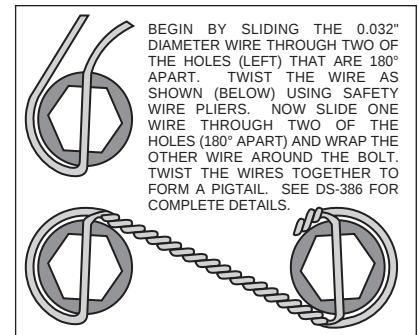

Figure 3. Safety Wire Diagram
- The rotor (3) has two sides. A flat side and an inset side. Bolt hat (2) to flat side of rotor (3) using bolts (5). Using an alternating sequence, apply red *Loctite*® 271 to the threads and torque bolts (5) to 25 ft-lb. For an added measure of security, the bolts may be safety wired using standard 0.032 inch diameter stainless steel safety wire as shown in Figure 3. Please refer to Wilwood's data sheet DS-386 (available at www.wilwood.com/Pdf/DataSheets/ds386.pdf) for complete safety wire installation instructions.
- Align the correct hole pattern in the hat (2) with the stud pattern on the axle flange.